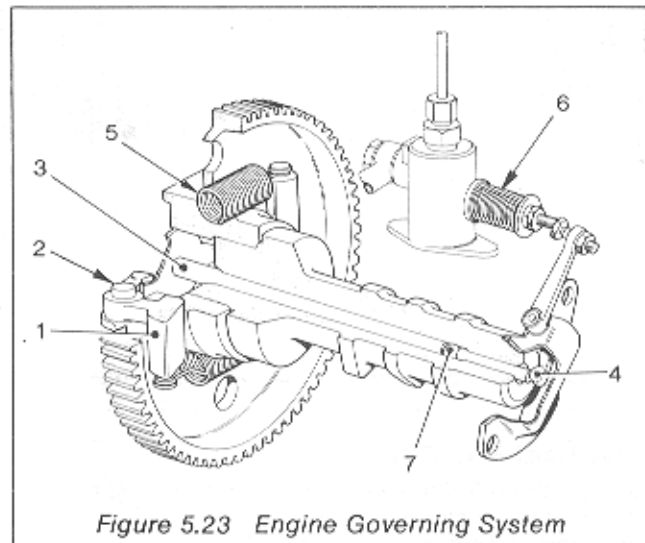

Figure 5.23 Engine Governing System
Governor (Figure 5.23)
5.47 Assemble the governor by replacing the steel ball and long push rod in the camshaft. Fit the governor weights using new pins (Figure 5.23).